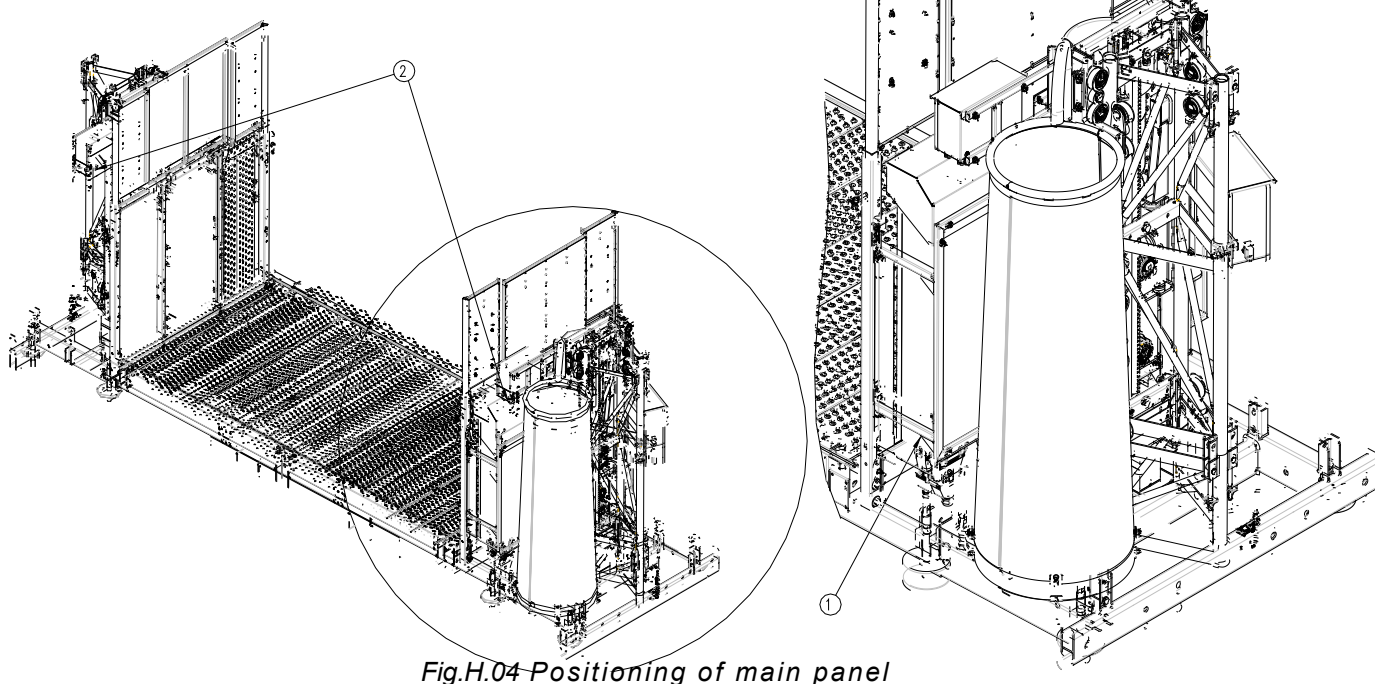

Fig.H.04 Positioning of main panel
17. Assemble the main panel (fixed on its support frame and cover roof, 1-fig.H.04) to the mast railing outside of the platform. The main panel must be fixed in the base unit where there is the presence of the cable basket.
18. Connect the power and control cables from drive unit junction box (2-fig.H.04), to the main panel on the mast protection, by means X8 (6-pin) and X6 (24 pin) connectors for the right drive unit and X7 (6-pin) and X5 (24-pin) connectors for the left-drive unit.